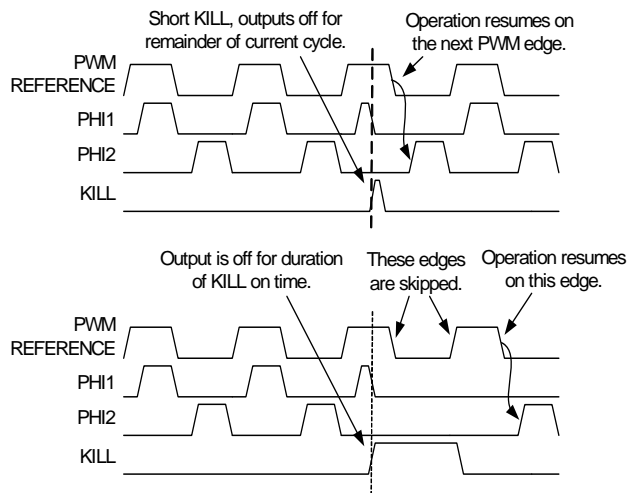

Figure 17-13. Synchronous Restart KILL Mode
1. **Synchronous Restart Mode:** When KILL is asserted high, the internal state is held in reset and the initial dead band period is reloaded into the counter. While KILL is held high, incoming PWM reference edges are ignored. When KILL is negated, the next incoming PWM reference edge restarts dead band processing. See Figure 17-13.